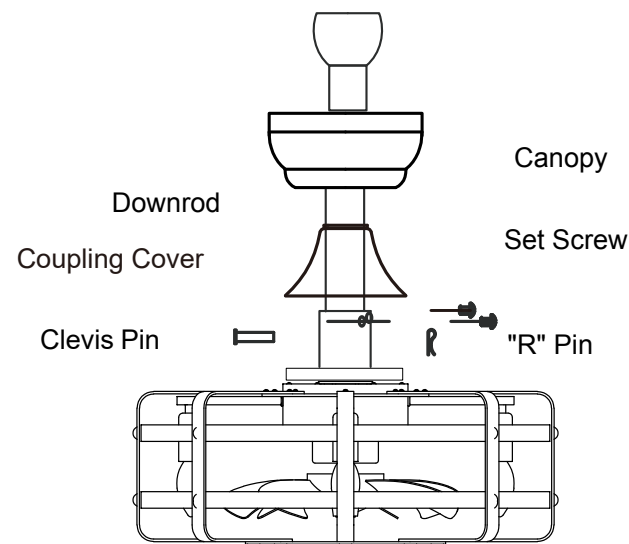

Fig. 2
**Step 1.** Assemble the canopy and coupling cover as Fig. 2.
**Step 4.** Align the holes at the bottom of the downrod with the holes in the collar on top of the motor housing (Fig. 2).
Be careful not to jam the pin against the wires inside the downrod. Insert the "R" pin to the end of the clevis pin (Fig. 2).